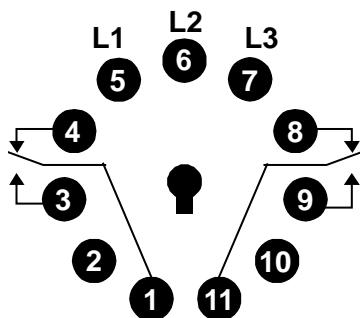
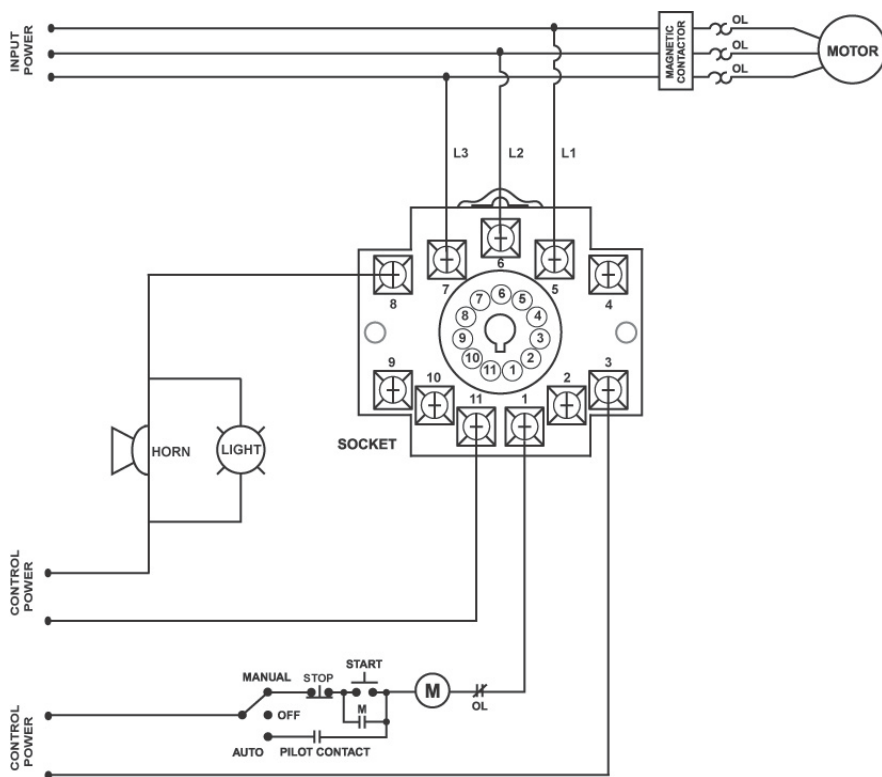

Figure 1: Pin-Out Diagram
Figure 2: Typical Motor and Alarm Control Wiring Diagram
3. Connect L1, L2 and L3 (terminals 5, 6 & 7 on the relay socket) to the LINE SIDE of the motor starter (Figure 2).
4. Connect the output relays to the circuitry to be controlled. See Figure 1 for pin-out diagram. The output relays are isolated, so different control voltages may be applied to each one. For motor control, connect a normally open contact in series with the magnetic coil of the motor starter as shown in Figure 2. For alarm operation, connect a normally closed contact in series with the control circuit as shown in Figure 2.